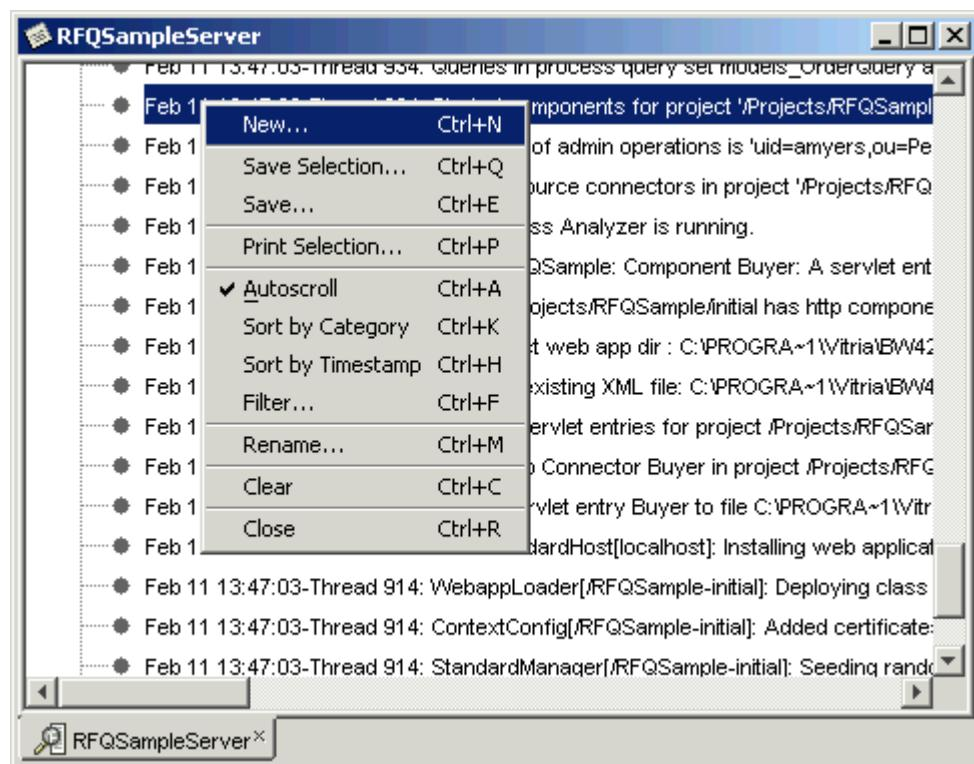

Figure 27-19 Log Viewer with Context Menu Displayed
- Displays logs from any of these sources (see Figure 27-19).
Deployment displays the deployment configurations in hierarchical fashion, with all the Integration Servers listed for each configuration and all the loggers listed for each server (Figure 27-19).